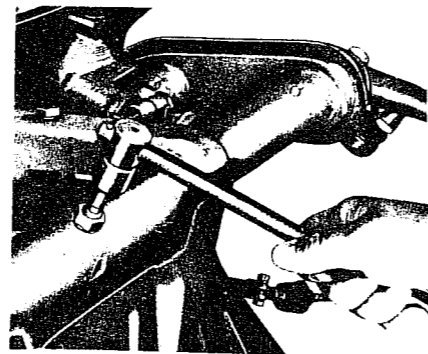

Fig. H.17. Removing the torsion bar retaining socket screw.
2. Loosen the lock nuts of the set screws and remove the set screws (Fig. H 17).